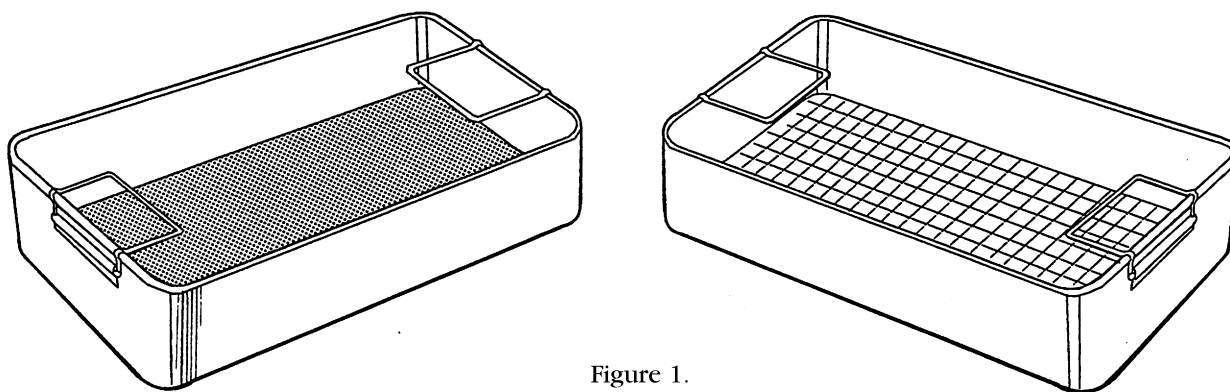

Figure 1.
1. Always use a "standard" surgical instrument tray that has multiple perforations or a wire mesh-button (or its equivalent used in rigid sterilization container systems) for surgical instrument set assemblies (Figure 1).